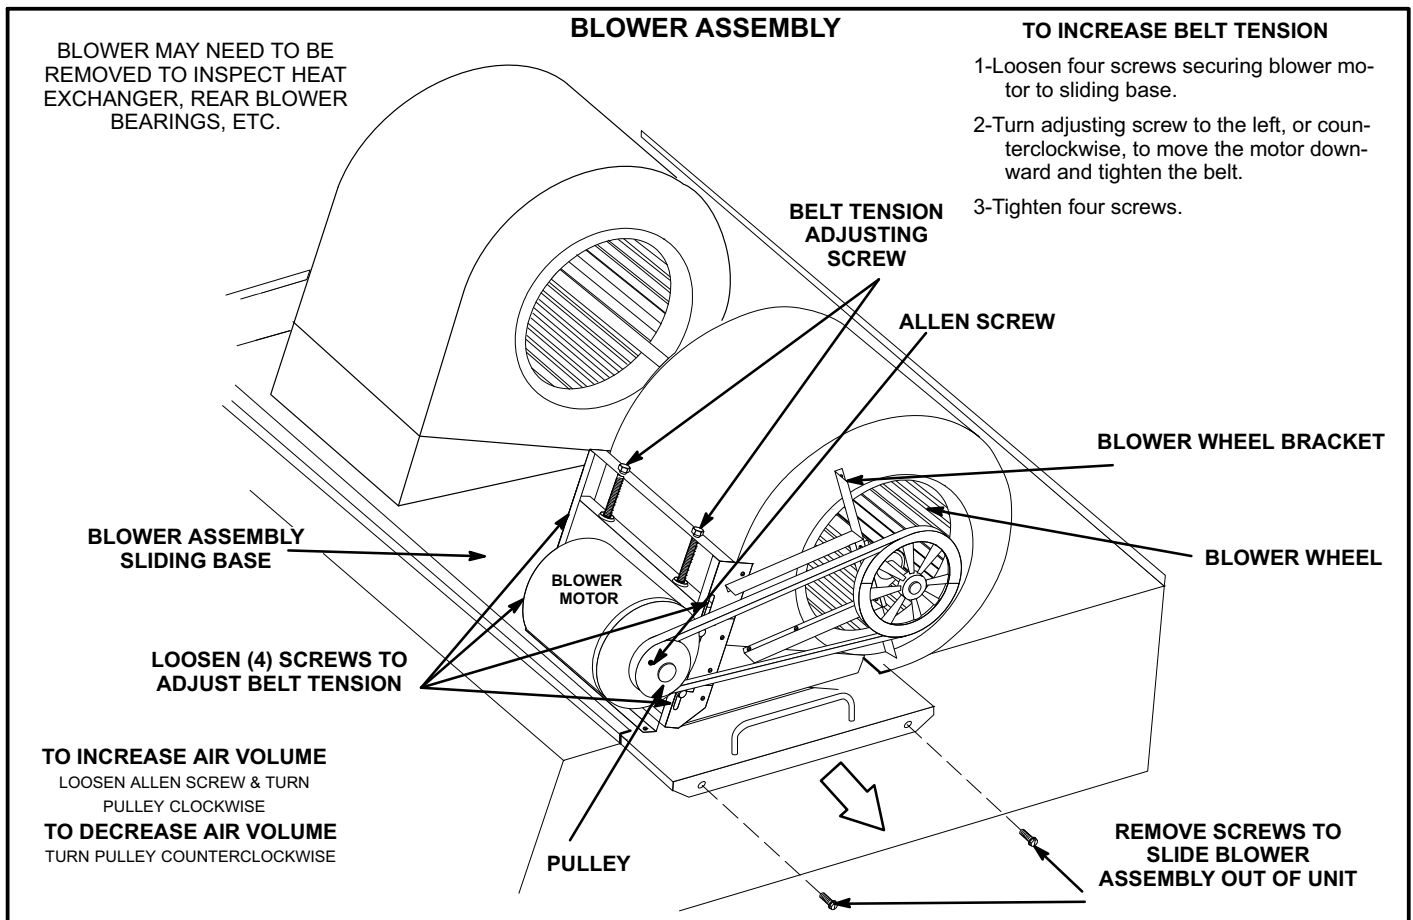

FIGURE 8
The blower compartment is located between the evaporator coil and the compressor / control section on the opposite side of the condenser coil. The blower assembly is accessed by disconnecting the blower motor wiring (and all other plugs) and removing the screws on either side of the sliding base. The base pulls out as shown in figure 8.
- 5- The RPM can be adjusted at the motor pulley. Loosen Allen screw and turn adjustable pulley clockwise to increase RPM. Turn counterclockwise to decrease RPM. See figure 8.
1. Loosen four screws securing blower motor to sliding base. See figure 8.